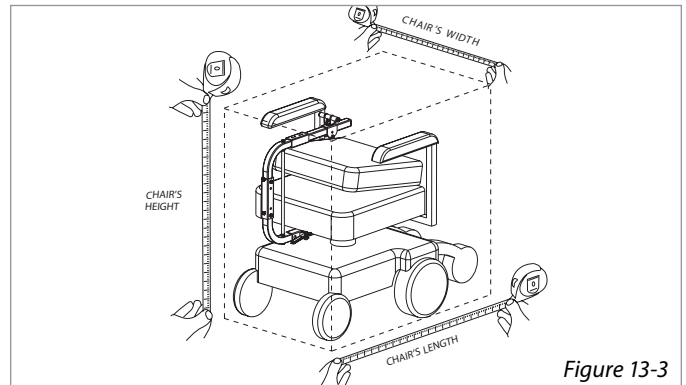

Figure 13-3
2. **Fold the chair or scooter's seat back** (or remove seat), preferably with the docking device attached, to roughly observe the chair's transportable dimensions. Measure length, width and height. [Figure 13-3]